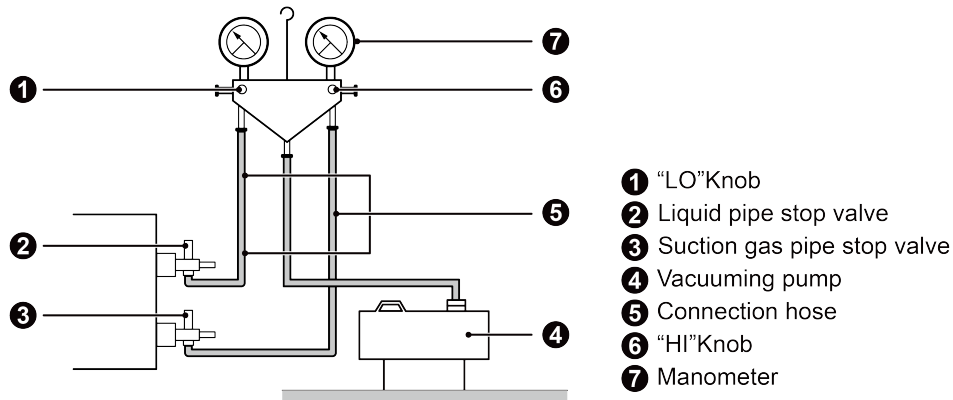

Fig.4.5.1
- (1) Outdoor unit has been charged with refrigerant before delivery. Field-installed connection pipe needs to be charged with additional refrigerant.
- (2) Confirm whether outdoor liquid and gas valves are closed.
- (3) Use vacuum pump to withdraw the air inside indoor unit and connection pipe from the outdoor valve, as shown in Fig.4.5.1 below
- (4) Do not perform pump down work when there is a gas leak. The intake of air or other gases causes abnormally high pressure in the refrigeration cycle, which may cause explosion or injury.
- (5) When pumping down the refrigerant, stop the compressor before disconnecting the refrigerant pipes. The compressor may burst and cause injury if any foreign substance, such as air, enters the system.